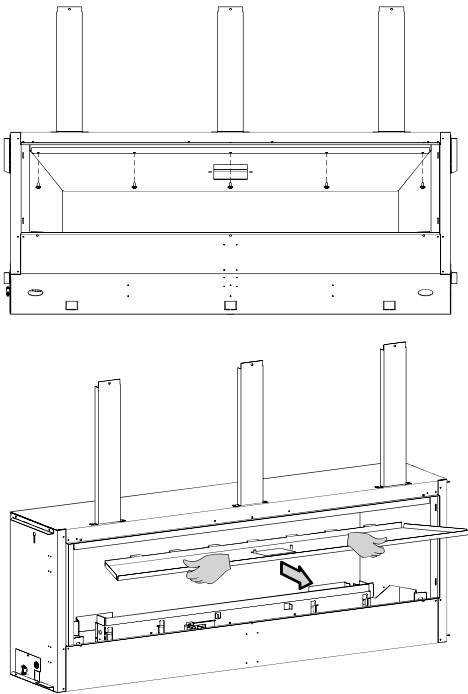

Figure 4
- Remove the inner firebox top by removing five Phillips Truss Head Screws. See Figure 4.
- Reinstall the inner firebox top. Secure in place with the five Phillips Truss Head Screws removed in Step 4. See Figures 4 and 9.